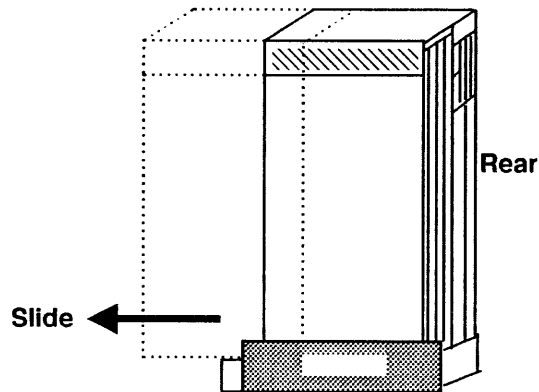

Figure 5. Sliding the Processor Off of the Carton Base
4. Carefully slide the processor half-way off the carton base (Figure 5).